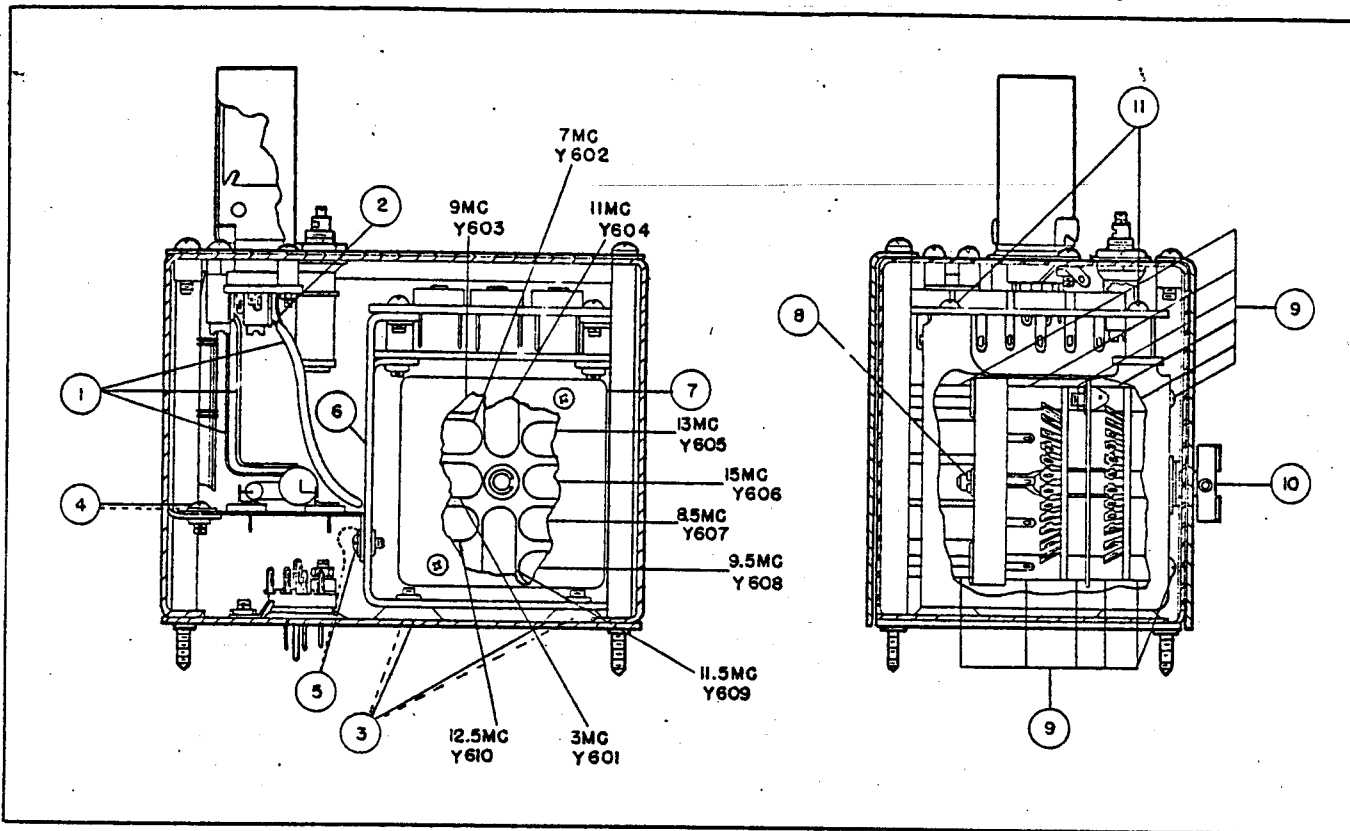

Figure 3-15. R-F Oscillator Assembly, Front and Side View
3-28. REMOVAL OF SWITCHES AND TRIMMER CAPACITORS. Refer to figure 3-15.
- c. Replace the switches and terminal boards in the small chassis (item 6) in the same position as removed.
- d. Replace four screws and two spacers (item 11).
- e. Replace switch shaft (item 10) as illustrated, in figure 3-15, being careful not to move any of the switch positions.
- f. Replace screws, spacers, and posts (item 9).
- g. Replace retaining ring and washer (item 8).
- h. Replace crystals in the correct sockets. Refer to figure 3-15.